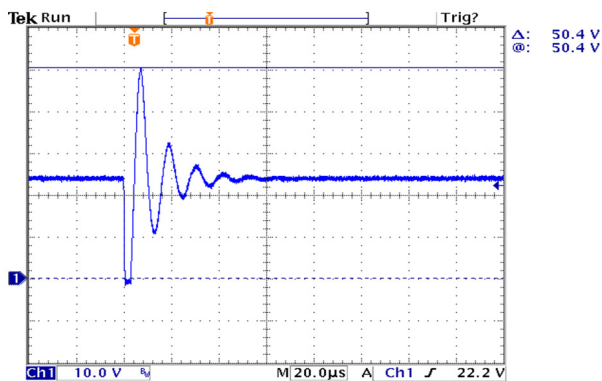

Figure 8. Cable ringing at initial plug-in.
**Figure 8** shows our test result, where we emulate a brief short-circuit condition across the cable (commonly occur during a hot plug event) by switching on the power MOSFET at the output for a few microseconds. Once the short is removed, the short-circuit current built up through the cable parasitic inductance resonates with the board input capacitance. The peak ringing voltage is 50.4V, more than doubling the source voltage of 24V.